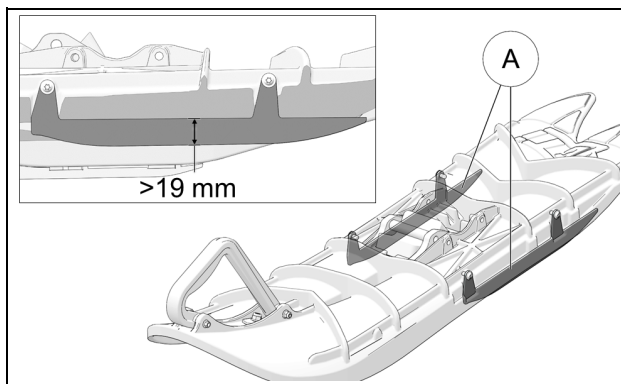

Figure 72
Verify the Side runners (A) mounted on the ski. If they show rounded edges, they should be re-sharpened. Replace part if the height of a runner is under 19 mm (25mm when new). See Figure 72.